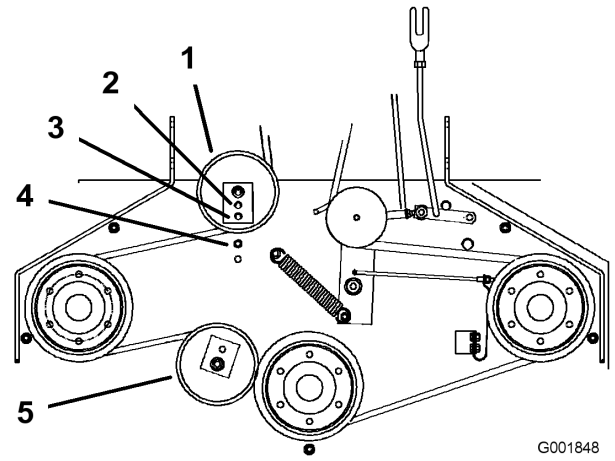

Figure 40
- If there is no adjustment left in the turnbuckle and the belt is still loose, the rear idler pulley needs to be positioned to the middle or front hole (Figure 40). Use the hole that will give the correct adjustment.
- When the idler pulley is moved the belt guide must be moved. Move the belt guide to the front position (Figure 40).